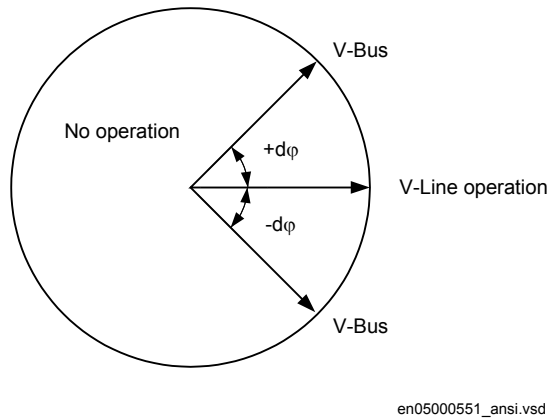

Figure 15: Test of phase difference
3. Change the phase angle between $+d\phi$ and $-d\phi$ and verify that the two outputs are activated for phase differences between these values but not for phase differences outside, see figure 15.